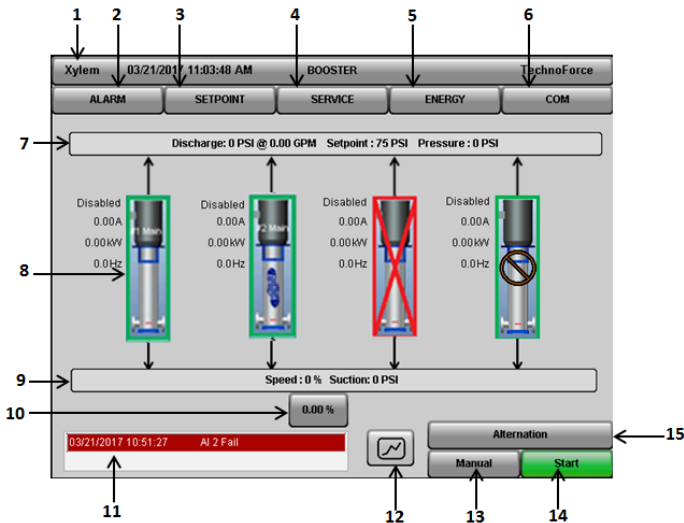

Figure 5.1.1 – Home Screen
1. **Automatic Mode:** Tap on [manual] button shown in Figure 5.1.1 (13). The system will enter into auto mode and the text on [Manual] Button will change to [Automatic] and it will be highlighted as shown in Figure 5.1.9
In manual mode, the button for manual Speed control of pump becomes visible as shown in Figure 5.1.1 (10).
- **System Start/Stop:** It shows the command which can be performed by using this button (i.e. If it is showing “Start” then user can use this button to start the system and if it shows “Stop” then user can use this button to stop.). This button is shown in Figure 5.1.1 (14).
- **Manual Alternation:** This button can be used to alternate pump sequence in automatic operation mode. When alternation method is selected on pump run hour base, this button gets disabled. This button is shown in Figure 5.1.1 (15).